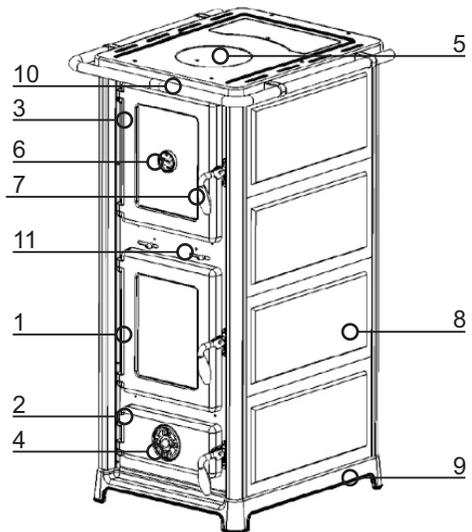

Figure 1.
Stove parts (Figure 1):
- ashtray door should be left open until stable flame occurs, and after closing, intensity of the burning should be regulated on the air flow regulator, (fig. 1, pos. 3) close firebox door and ashtray door,
- at adding fuel, open firebox door (fig. 1, pos. 1) for only few degrees, wait for 4-5 seconds, then open it wide very slowly. Do not open it abruptly, because when flame in the firebox is too strong, it may effuse into the room.
By regulation of draft in the stove, you set temperature, power and pace of fuel combustion, and it is to be carried out by turning draft regulator on the ashtray door (fig. 1, pos. 3). Stove has secondary air flow regulation due to improvement of combustion and maintaining firebox glass clean. By combining primary air through regulator on the ashtray door and secondary air via buttons above firebox door (fig.1, pos. 12) desired combustion is achieved.